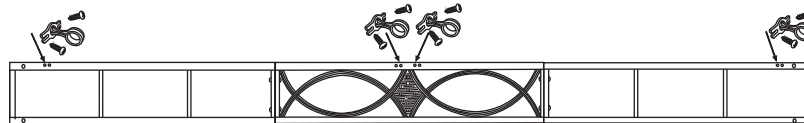

Fig.4
2. Place the combined cross beams #2,3 and 4 at the opposite side, and use eight M4x12mm screws #19 to attach four track hangers #17 on top of the combined cross beam. See fig.4.